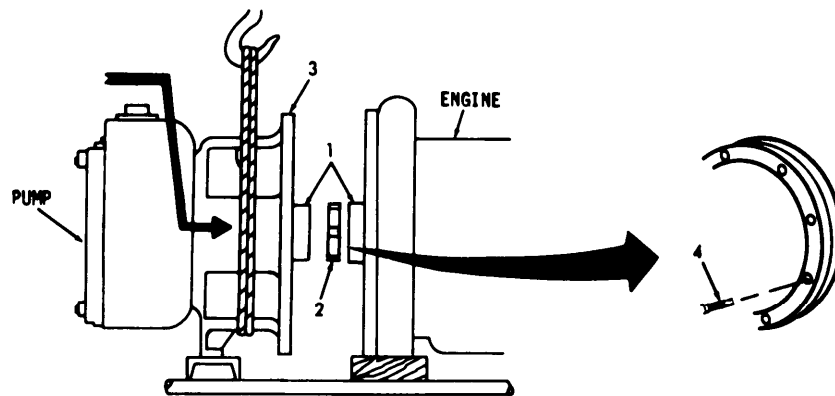

Figure 4-7 Pump alignment.
(2) Torque screw self-sealing (20) to 32 - 35 ft. lbs.
(3) Install shims (14) as needed to provide .010 to .015 inch clearance between impeller (13) and wear plate (16).
(4) Align coupling halves (1, figure 4-7) and spider (2) by reaching through holes in pump bearing housing (3).
(5) Torque cap head screws (4) to 24 - 26 ft. lbs.
(1) Refer to figure 4-7, reassemble coupling in reverse sequence.